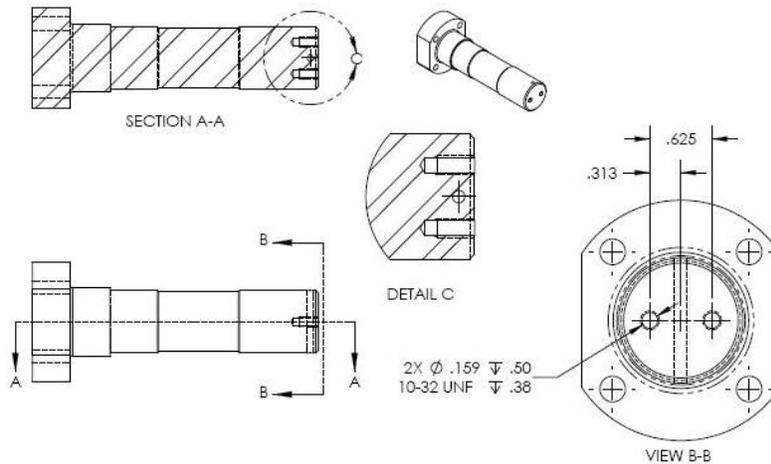

Figure 32-7 Drill Hole Location on Axle
6. Verify axles have two drill holes. Drill holes should appear at outboard axle end. If no drill holes, then drill and tap two holes as specified by Figure 32-7.